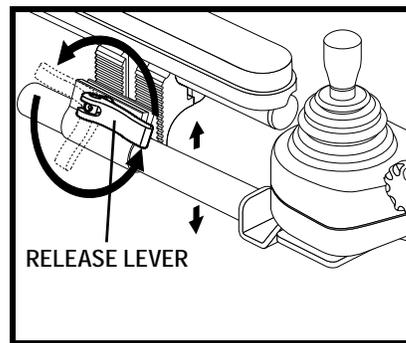

Figure 32. Controller Position – Height
3. Flip and then rotate the release lever to loosen the clamp. See **figure 32**.